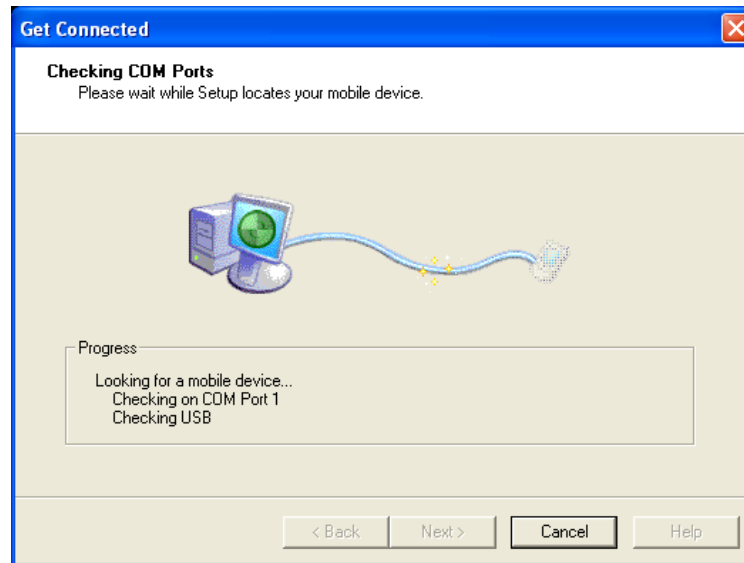

Figure 21
3. Click **[Next]**. The TREQ-M4 automatically responds to the PC's ActiveSync connection request. (See Figure 21, "ActiveSync, Get Connected.")